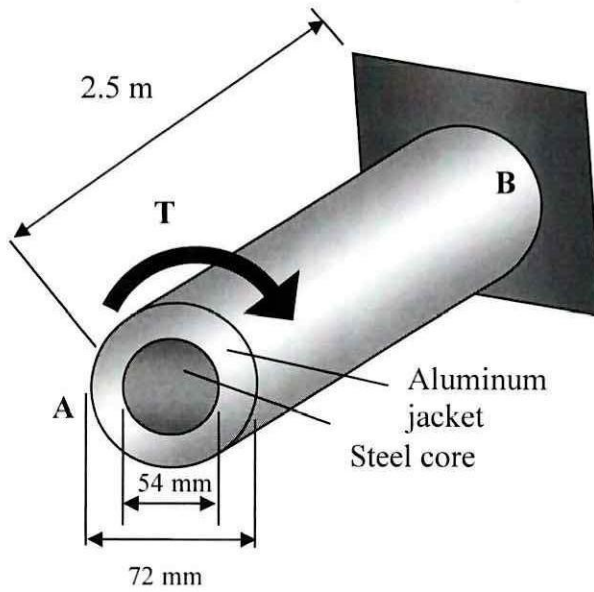

Figure Q3
- Q3** **Figure Q3** shows a 4 kN.m torque T is applied at end A of the composite shaft. Knowing that the modulus of rigidity is 77 GPa for Steel and 27 GPa for Aluminum. Determine: